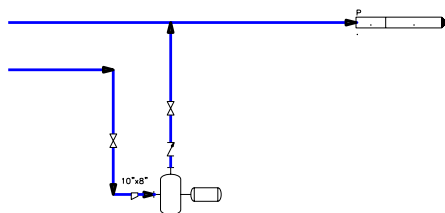

Figure 2-79 Off page connector placed at the endpoint of the pump outlet line
2. Place the off page connector at the endpoint of the line connecting the pumps, as shown in Figure 2-79.